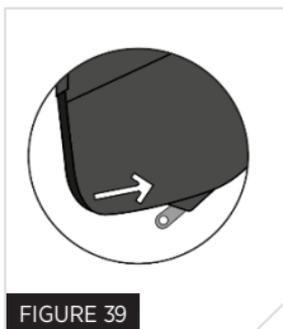

FIGURE 39
19. Stow the zippers into the zipper garage (Fig. 39).